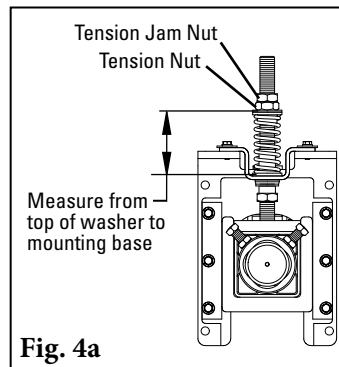
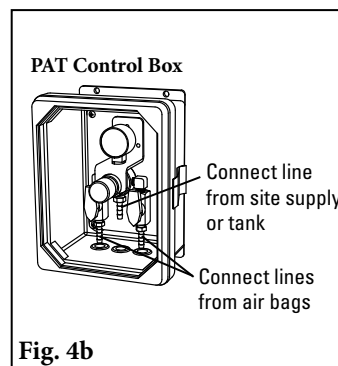

Fig. 4a Measure from the top of flat washer to the mounting base to determine spring length.
Fig. 4b
4a. **Spring Tensioner:** Loosen the top tension jam nuts on both sides. Turn the tension nuts until the correct spring compression is reached (Fig. 4a). Spring compression is determined by spring length. See the chart at right for the correct spring length for your belt width.
4b. **Air Tensioner:** With the parts supplied, attach a line to each air bag and run the lines to the outlet side of the control box (Fig. 4b). **NOTE:** Be sure lines are safely away from the belt. Connect the line from the inlet side of the box to the site's supply or air tank. Test the connections for leaks and set the pressure per the chart at right. Pressure may be reduced to suit application. See the chart at right for the correct air pressure for your belt width.
5. **Reassemble the SAT XD Tensioner.** Remove three screws from air bag support plate (Fig. 4a). Turn the threaded insert into the support plate. Also turn part of the threaded insert into the hole on pole mount. (Fig. 4b). Ensure 1/4" (6mm) of threaded insert is still exposed, then turn the air bag onto the threaded insert and tighten (Fig. 5).